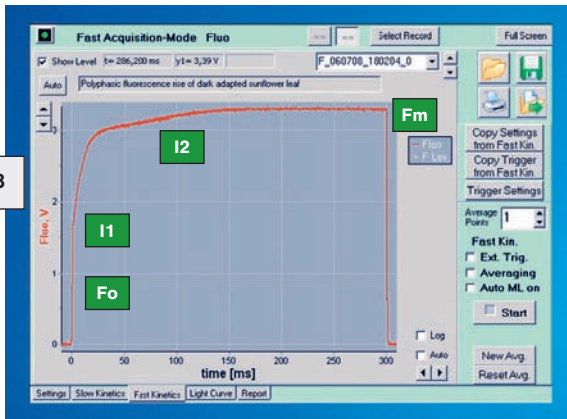

Fig. 8
▶ Fast Kinetics, linear time scale (Fig. 8)